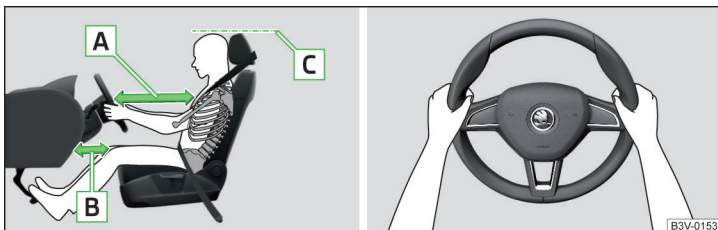

Fig. 2 **Correct seated position for the driver/correct steering wheel position**
- ✓ For vehicles equipped with driver knee airbags, adjust the driver's seat in a forward/back direction so that there is a gap of at least 10 cm between the legs and the dashboard in the vicinity of the knee airbag » [Fig. 2 - \[B\]](#).
- ✓ Adjust the steering wheel so that the distance between the steering wheel and your chest is at least 25 cm » [Fig. 2 - \[A\]](#).
- ✓ Adjust the headrest so that the top edge of the headrest is at the same level as the upper part of your head (not for seats with integrated headrests) » [Fig. 2 - \[C\]](#).
- When driving, hold the steering wheel with both hands firmly on the outer edge in the "9 o'clock" and "3 o'clock" position » Fig. 2. Never hold the steering wheel in the "12 o'clock" position or in any other way (e.g. in the middle, inner edge of the steering wheel or similar). Otherwise, in the event of airbag deployment, you could suffer serious injury to the arms, hands and head.
- ✓ Adjust the headrests so that the top edge of the headrest is at the same level as the upper part of your head » Fig. 2 on page 13 - (not for seats with integrated headrests).
- ✓ Adjust the headrests so that the top edge of the headrest is at the same level as the upper part of the head » Fig. 2 on page 13 - .